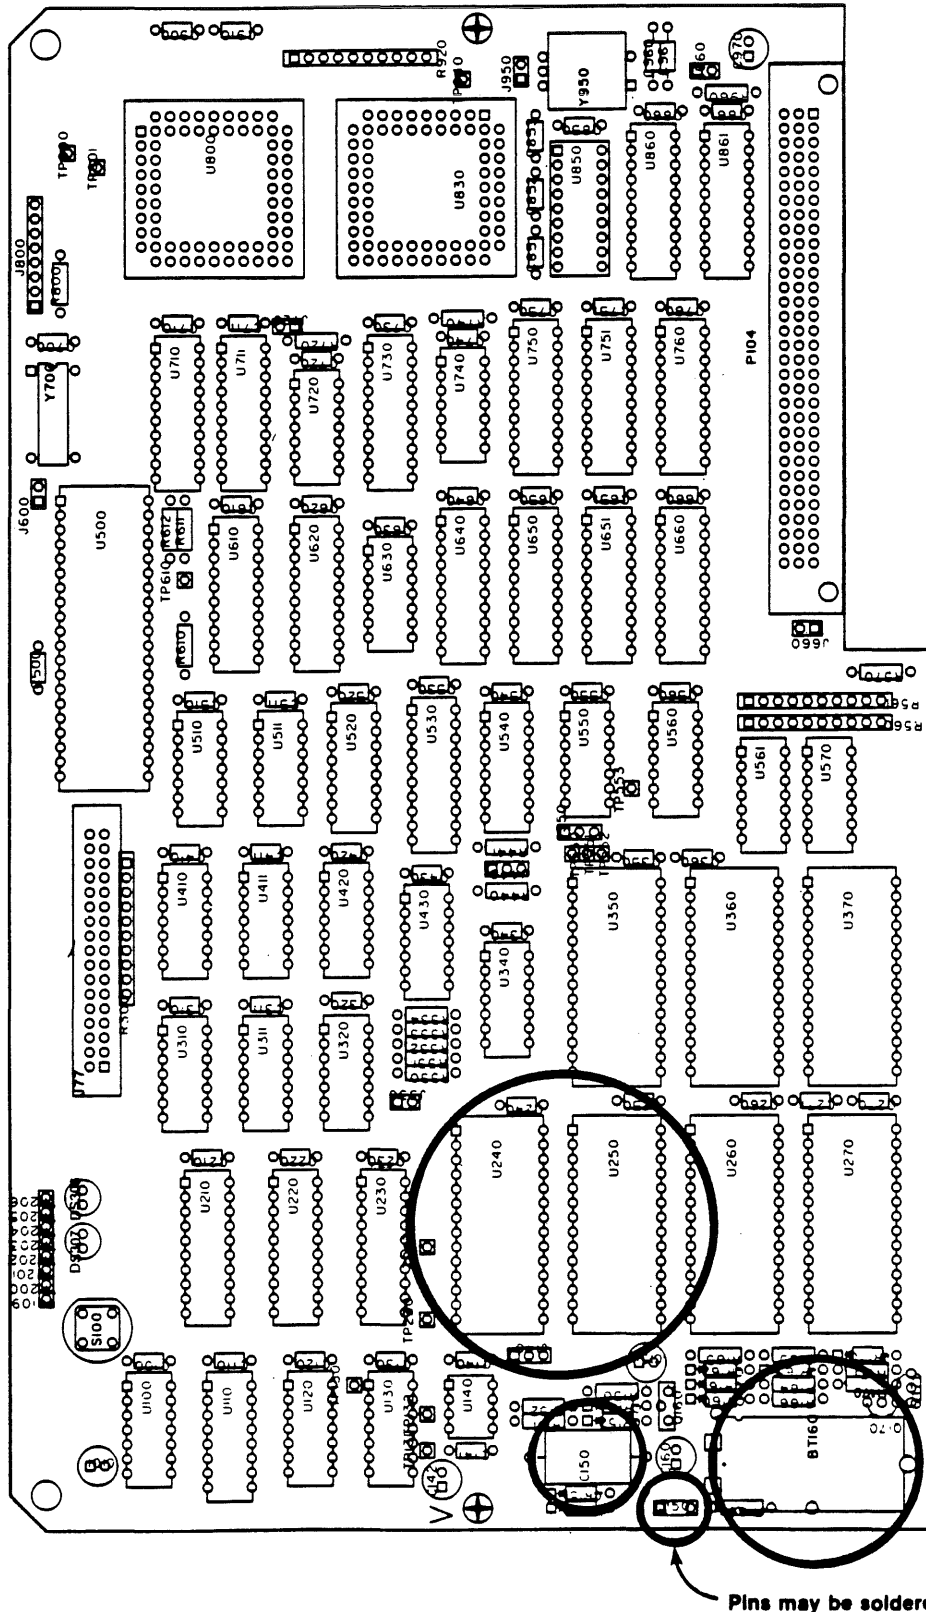

Figure 4. A17 Main Processor Board.
- b. On the Main Processor Board, replace U240 and U250 with the following part numbers (see Figure 4):
- a. Locate the following components on the A17 Main Processor Board (see Figure 4):
- b. Remove jumper J150 (see Figure 4). If jumper J150 is not installed and the two pins are soldered together unsolder the two pins.